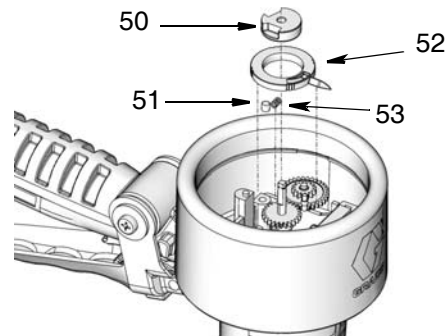

FIG. 23
4. Install the lower pointer (52), spring (53), pin (51) and plug (50) as shown in FIG. 23. Use a hex wrench to tighten the plug setscrew.